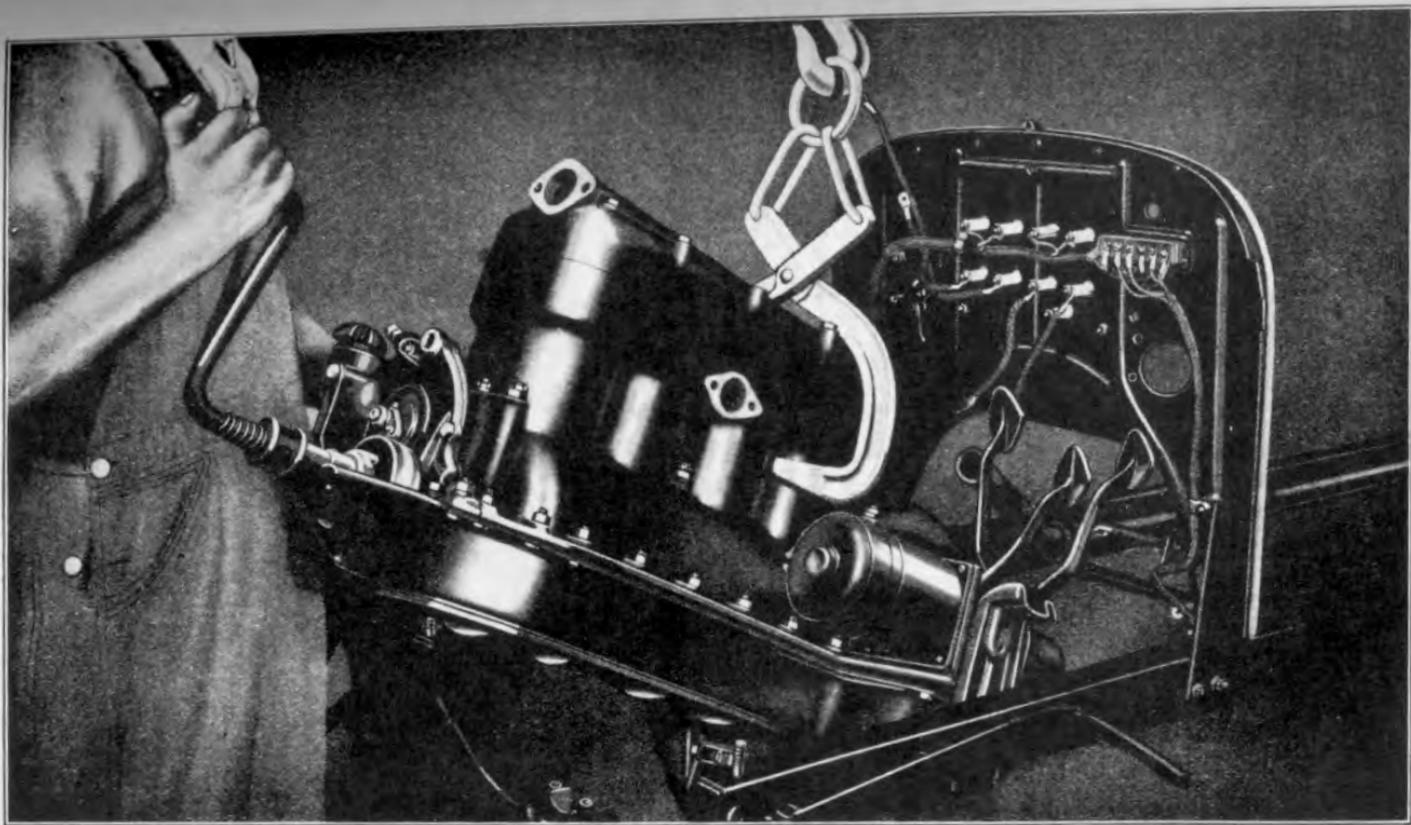

Fig. 38
- 39 **Remove engine from chassis** by means of motor lifting hooks and chain falls (See Fig. 38).